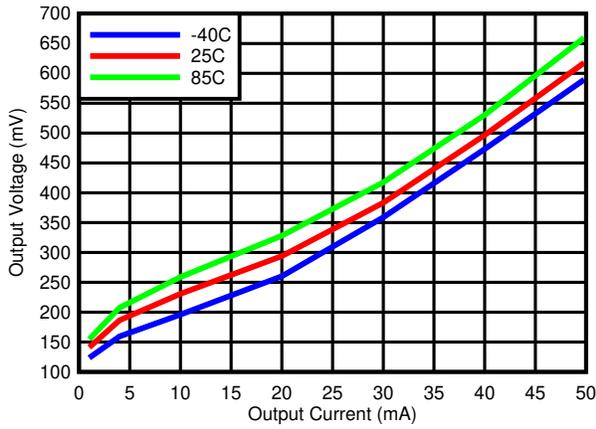
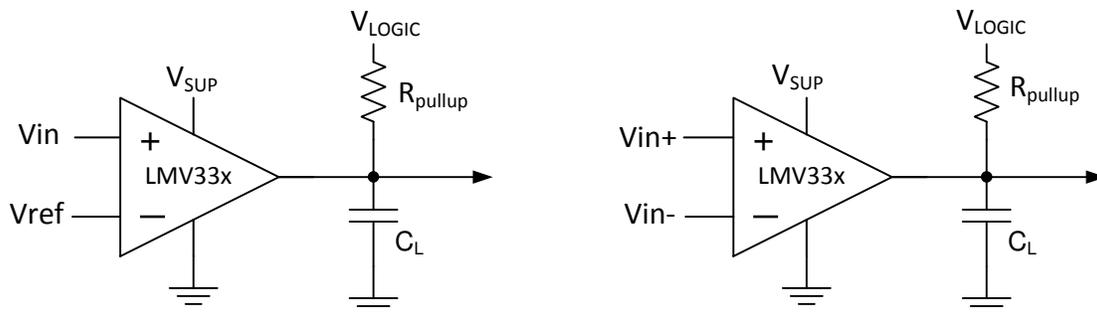

图 5-3. Output Voltage vs Output Current
图 7-1. Typical Application Schematic
The output consists of an open drain NPN (pull-down or low side) transistor. The output NPN sinks current when the negative input voltage is higher than the positive input voltage and the offset voltage. The  $V_{OL}$  is resistive and scales with the output current. Please see 图 5-3 for  $V_{OL}$  values with respect to the output current.
Output current is determined by the pull-up resistance ( $R_{pullup}$ ) and  $V_{logic}$  voltage, refer to 图 7-1. The output current produces a output low voltage ( $V_{OL}$ ) from the comparator. In which  $V_{OL}$  is proportional to the output current. Use 图 5-3 to determine  $V_{OL}$  based on the output current.
- $R_{CE}$  can be determine by taking the slope of 图 5-3 in it's linear region at the desired temperature, or by dividing the  $V_{OL}$  by  $I_{out}$